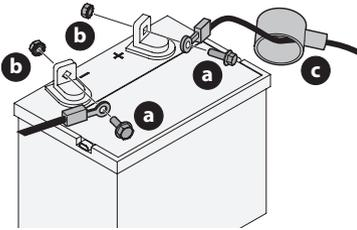

Figure 18
1. If present, remove the plastic cover from the positive battery terminal. Attach the red connector to the positive battery terminal (+) using the bolt (a) and hex nut (b) (Figure 18).
2. Position the red rubber boot (c) over the positive battery terminal (+) to help protect it from corrosion (Figure 18).
3. If present, remove the plastic cover from the negative battery terminal and attach the black cable to the negative battery terminal (-) with the bolt (a) and hex nut (b) (Figure 18).